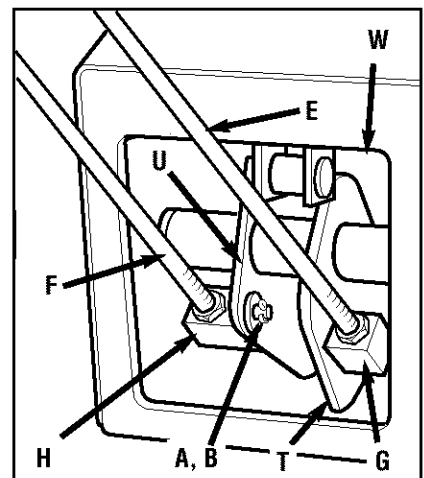

Figure 2-6: Left-hand control rods detail.
2. At left side of engine deck, insert swivel block (H, Figures 2-6 & 2-7) on wheel drive control rod into wheel drive control arm (U, Figure 2-6).
3. Add a 5/16" washer (A, Figure 2-6) and secure with a hairpin clip (B).
1. Locate the Operator Presence Control rod (E, Figures. 2-6 and 2-7). At bottom of control rod, insert swivel block (G, Figures 2-6 & 2-7) into control arm (T, Figure 2-6).